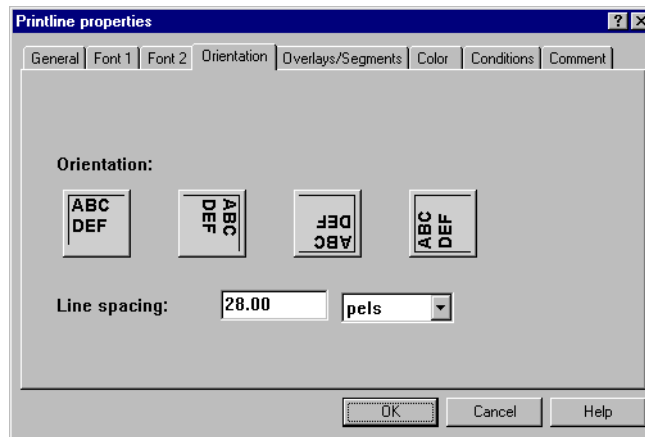

Figure 48. Changing line spacing for a Printline
- After you map the data to the View/Edit window, click any line of data but the first, and verify the value for *s*: in the positioning section of the toolbar. An example of this is shown in Figure 48. If the incorrect value is displayed, it probably means that the Preferences were not set correctly. It is best to fix the preferences, refresh the sample data, and redo the mapping.
To bypass this error, check the Line Spacing settings in Printline properties and in Field properties. In all cases, they should be set at the correct value for your application (for example, 28 pels). To do this, right-click the **Printline** and select the **Orientation** tab. The Line Spacing setting appears on that window as shown in Figure 48. Change the value if necessary. Repeat these steps to check the Line Spacing value for the two fields.